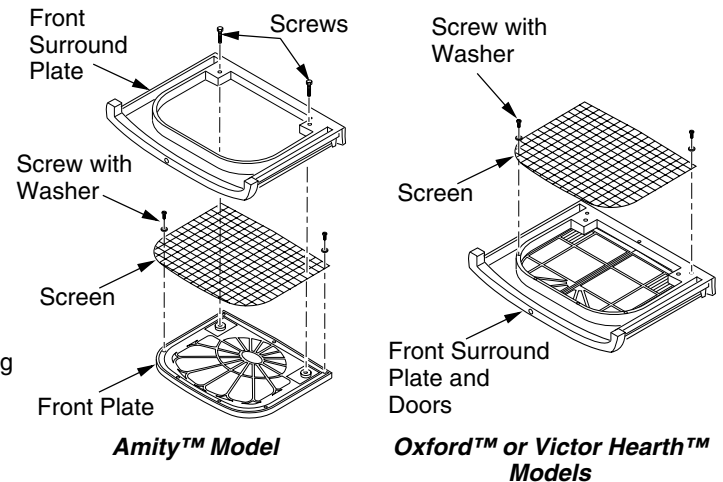

Figure 14 - Removing Screen from Front Assembly
- Lay the front panel assembly face down on a protected surface. Remove the two screws that hold the front plate onto the front surround plate (see Figure 14). Save these screws.
- Remove the screws and washers that hold the screen onto the front surround plate. Discard these screws, washers, and screen (see Figure 14).
- Lay the front panel assembly face down on a protected surface. Remove the screws and washers that hold the screen onto the front surround plate. Discard these screws, washers, and screen (see Figure 14).